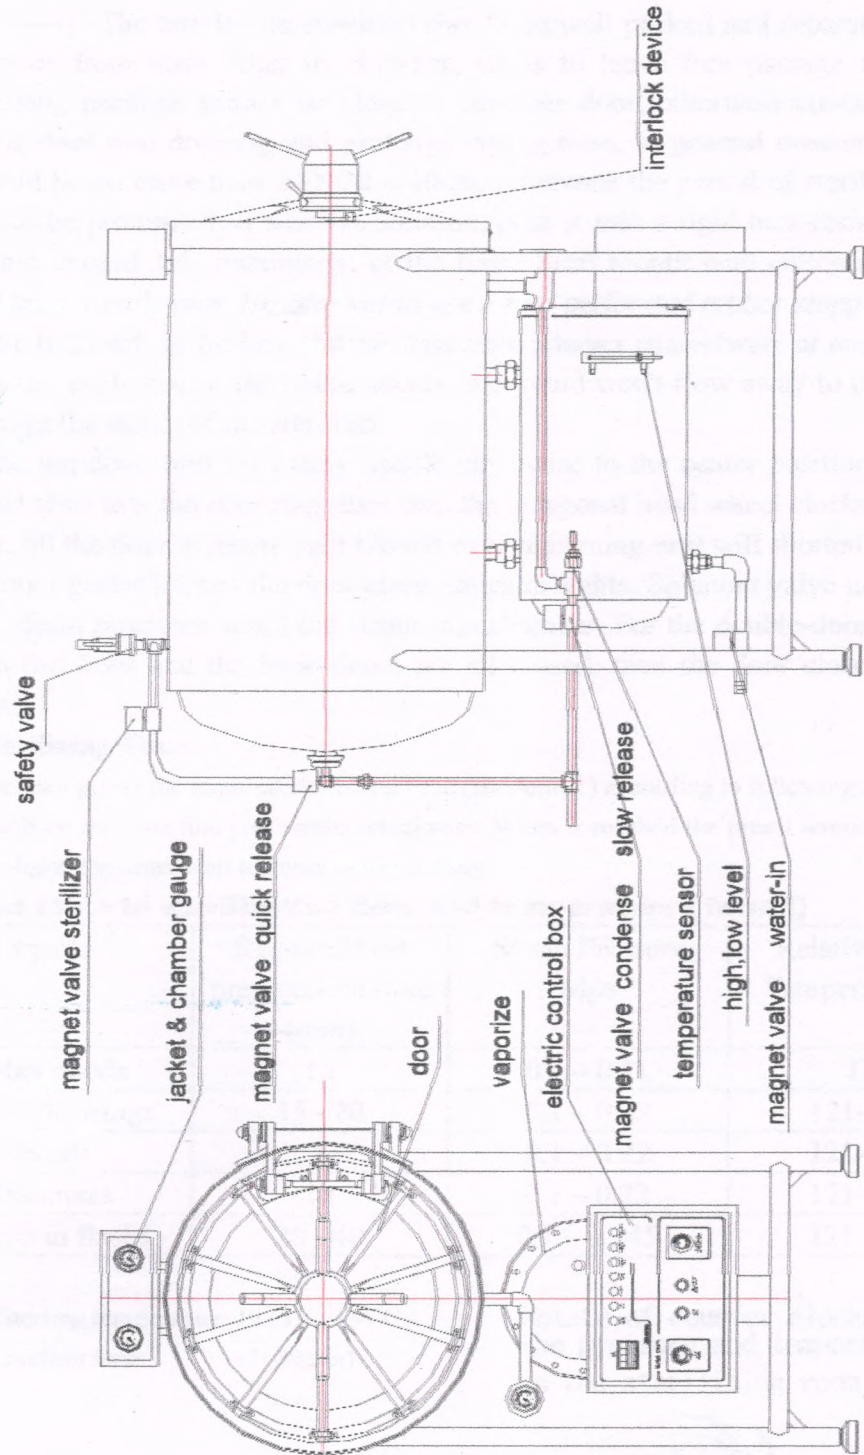

Fig3
- for installation. More floor space around the sterilizer is set aside for operating and repairing. The Min. Installation size for single door $200 \times 93 \times 182\text{cm}$, for double doors $200 \times 93 \times 182\text{cm}$. (see fig.3)